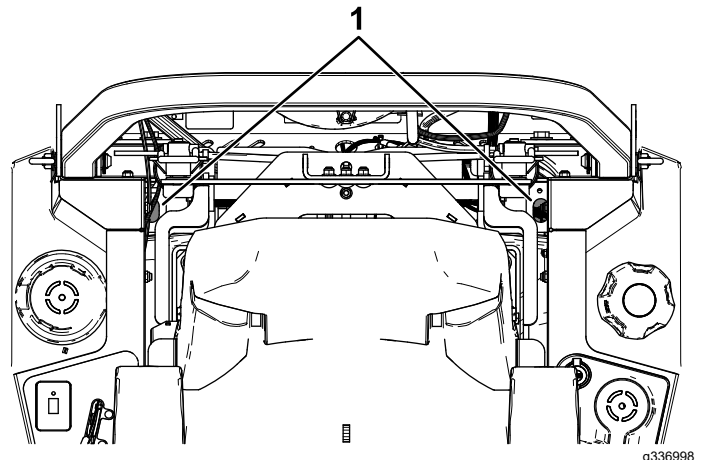

**Figure 68**
4. Using an extension and 7/16-inch socket, access the vent plug from the top of the machine through the holes near the roll-bar mounts (Figure 68).